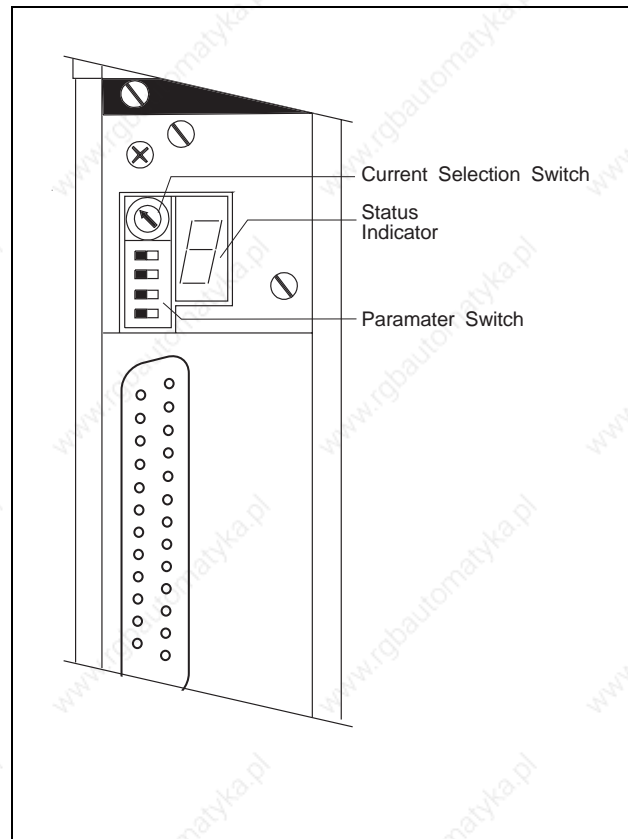
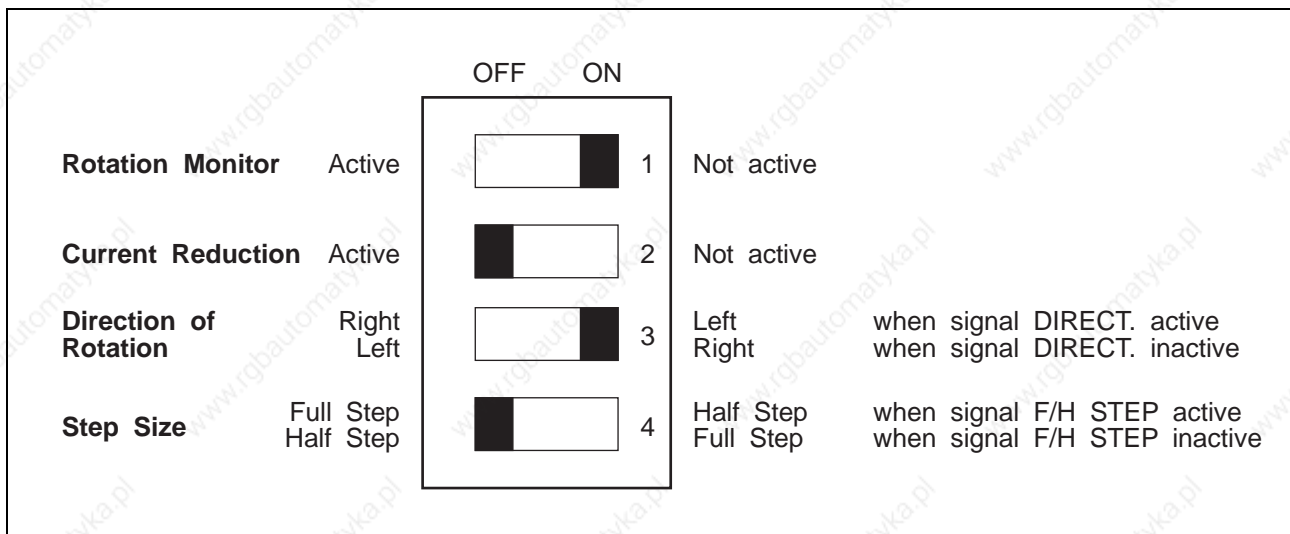

Figure 2-10 Adjustment Elements
Figure 2-13 Switch Settings Parameter Switch
The basic adjustments are made with the Current Selection Switch and the Parameter Switch (see figure 2-10) as follows:
- The automatic power reduction should, if possible, always be switched on in order to reduce the power dissipation (see figure 2-13).
- Adjust desired parameters according to figure 2-13 with the DIL switch 03 (see figure 2-10). The basic adjustment as set by BERGER LAHR is depicted.
Dependent on the adjustment of the parameter switch 03/4 (see figure 2-13):
Dependent upon the position of the Parameter Switch 03/3 (see figure 2-13):
- During activation of the RM RESET, an active current reduction is blocked (see figure 2-13).